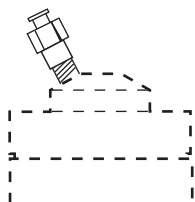
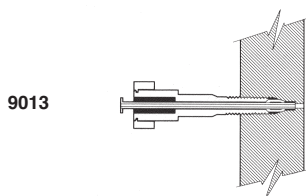

Fig. 3. Model 9013 connected to a Rheodyne sample injector.
Fig. 4. Model 9013 Needle Port bottomed in Rheodyne sample injectors.
a) Screw the Needle Port into an appropriate valve port for sample loading. Figure 3 shows Model 9013 Needle Port connected to an injector. Ensure the PTFE tube is bottomed in the valve port as shown in Figure 4.
Using Model 9013 to load the sample loop, insert the syringe needle into Model 9013 connected to a sample injector, and dispense two to five sample loop volumes of sample (see Figure 4).